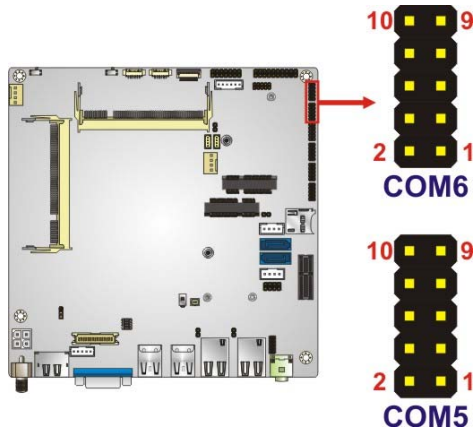

Figure 3-19: RS-232/422/485 Connector Locations
- CN Location:** See **Figure 3-19**